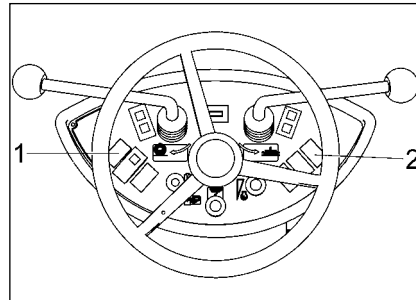

Abb.10
- Actuate switch (Fig. 10/1) and hold (dirt hopper is released)
- Actuate switch (Fig. 10/2) by pushing = lift dirt hopper
- Lower dirt hopper by actuating switch (Fig. 10/1) and switch (Fig. 10/2); pull lever = lower dirt hopper